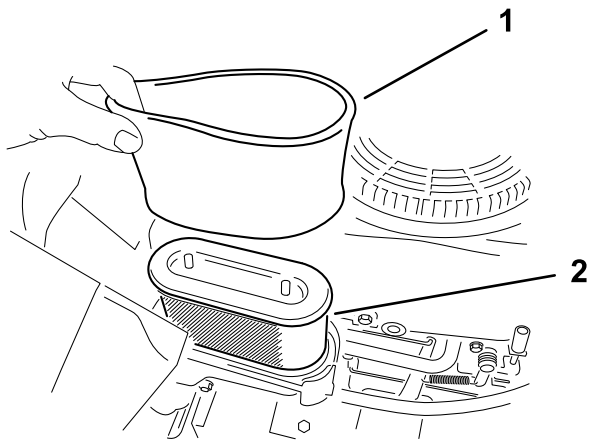

Figure 38
5. Carefully remove the foam and paper filter elements from the air-cleaner housing (Figure 38).
- Note:** If it is very dirty, replace the paper element (Figure 38).
1. Install the foam filter onto the paper filter (Figure 38).